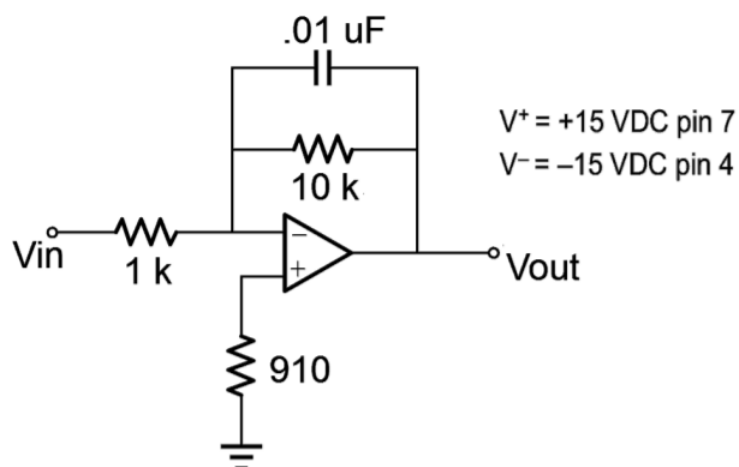

Figure 18.5.1
1. Derive the equation for V_{out} for the circuit of Figure 18.5.1. Calculate the lowest usable (“integratable”) frequency, f_{low} . Record these items in Table 18.7.1.